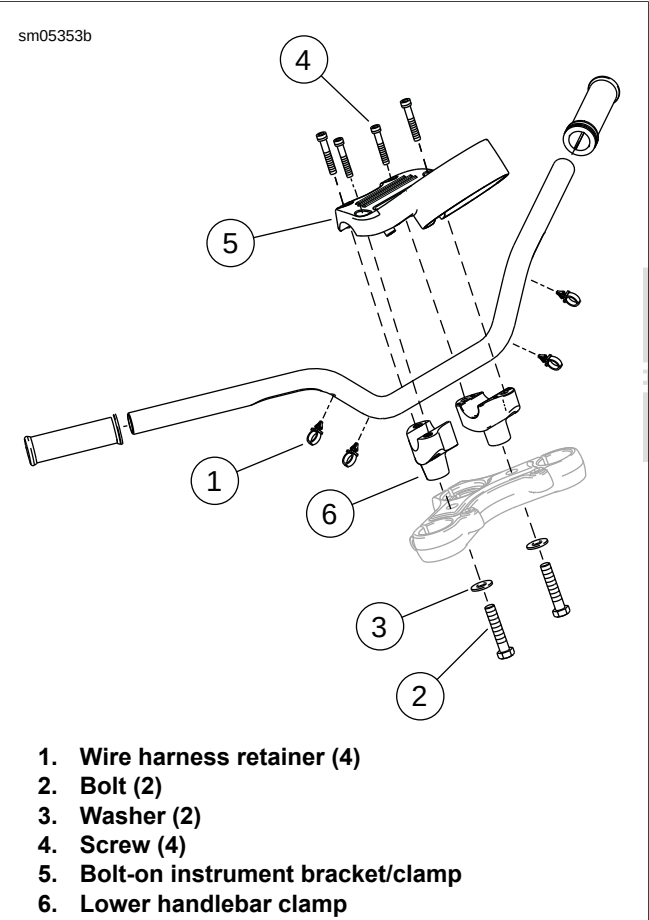

Figure 2-188. Handlebar: XL 883L/N/R
1. See Figure 2-188. Cut and remove four wiring harness retainers (1). Be careful not to cut into wiring harnesses. Discard retainers.
3. If removing lower handlebar clamps, loosen, but do not remove, two bolts (2) securing lower handlebar clamps (6) to upper fork bracket.
4. Remove screws (4) and the instrument bracket (5).
7. If removing lower handlebar clamps, remove two bolts, washers (3) and lower handlebar clamps from upper fork bracket.
**Drag Bar:** See Figure 2-188. See Installation, XL 1200C/C ANV.
**Mini-Ape:** See Figure 2-188. See Installation, All Models except XL 1200C/C ANV.